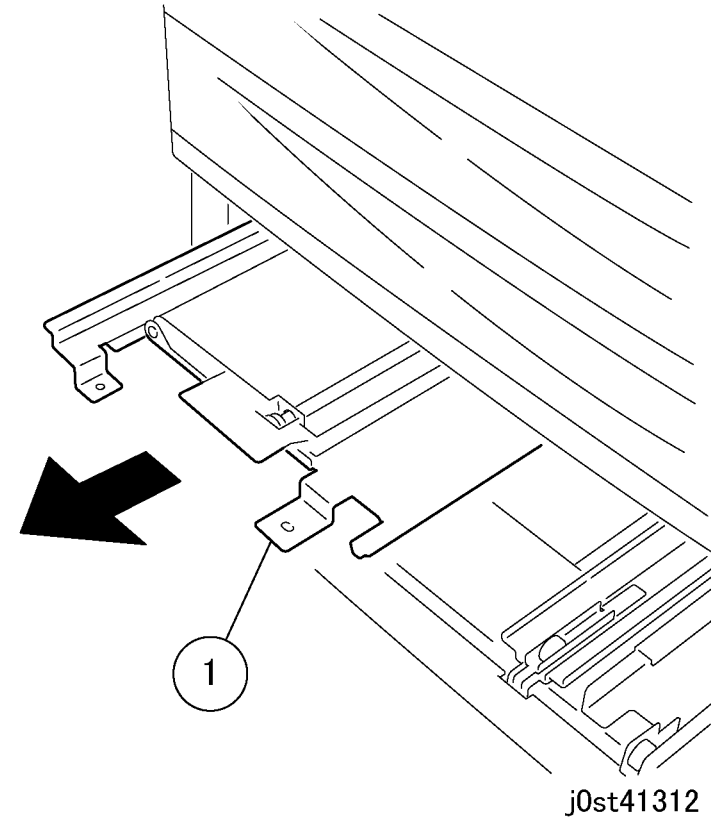

Figure 1 Removing the Tray 4 Transport Assembly (j0st41312)
3. Remove the Tray 4 Transport Assembly. (Figure 1)